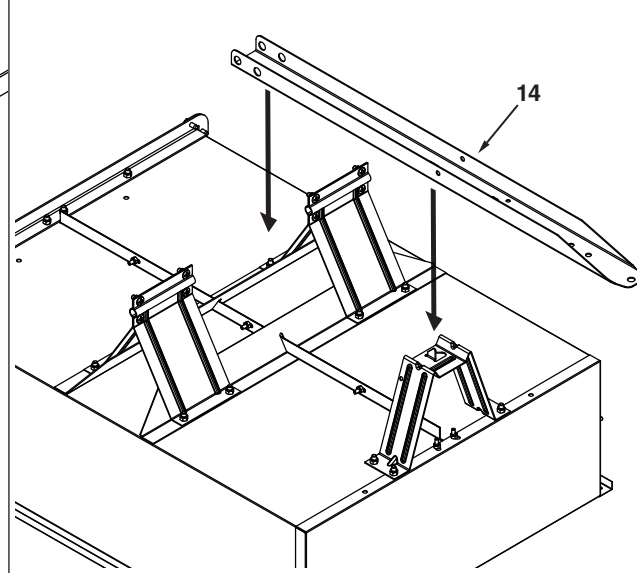

Figure 15
**STEP 15 (SEE FIGURE 15):** Position the cart bed upside down and place the draw bar tongue (14) as shown in figure 15.